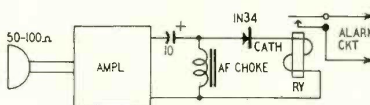

Fig. 4—An acoustic burglar alarm.
**Acoustic burglar alarm** Disconnect the listening earphone from the amplifier. Add a coupling capacitor, an af choke, a crystal diode and a sensitive relay (Fig. 4). This changes the listening amplifier into an electronic burglar alarm. Any noise picked up by the microphone generates a voltage across the output terminals of the amplifier. This is rectified by the crystal diode, and rectified current actuates a sensitive relay.